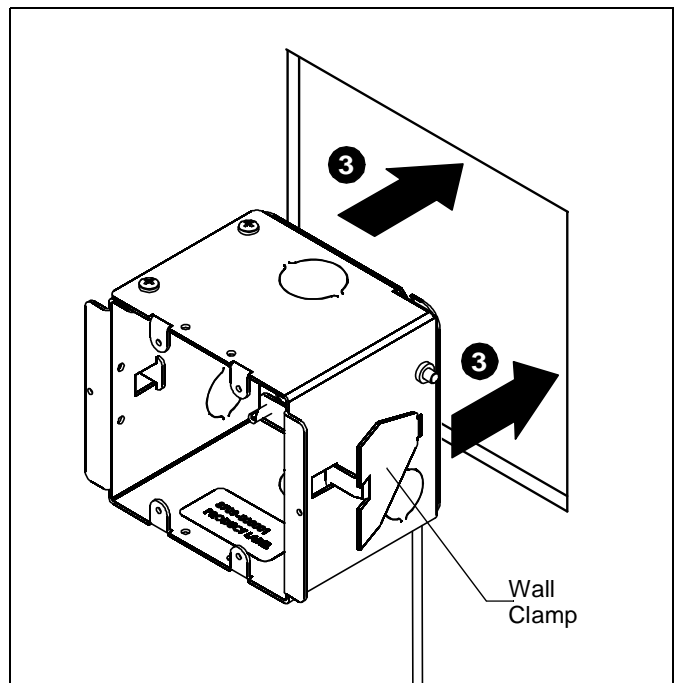

Figure 3
3. Insert PX2W into drywall opening. (See Figure 3)